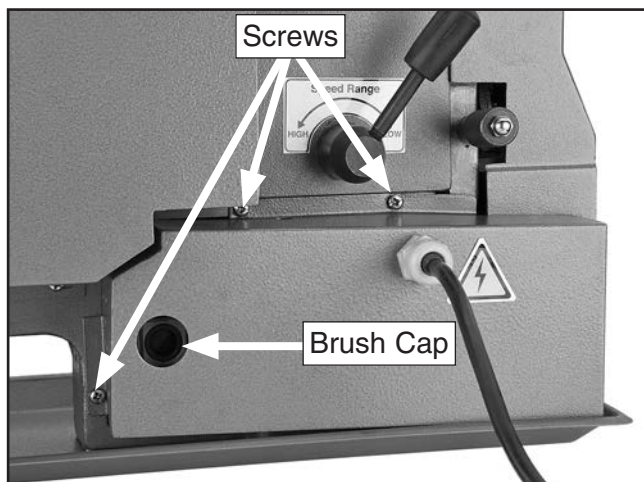

Figure 86. Location of rear motor brush cap.
2. Remove the three screws that secure rear motor cover, then remove cover to gain access to rear brush (see **Figure 86**).